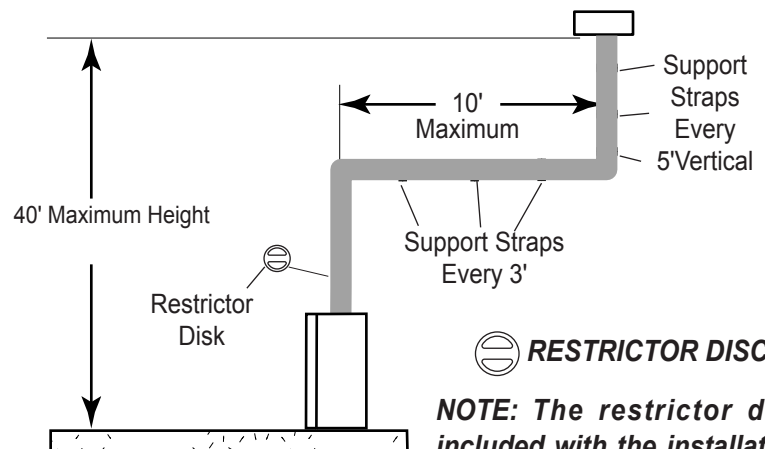

Figure 25- Support Straps for Horizontal Runs
- Vertical installations up to 40' in height. Up to a 10' (3m) horizontal vent run can be installed within the vent system using a maximum of two 90° elbows. See Figure 25.
**NOTE: If an offset is needed to avoid obstructions, you must support the vent pipe every three (3) feet. Use wall straps for this purpose. See Figure 25, page 22. Whenever possible, use 45° elbows instead of 90° elbows. The 45° elbow offers less restriction to the flow of the ue gases and intake air.**